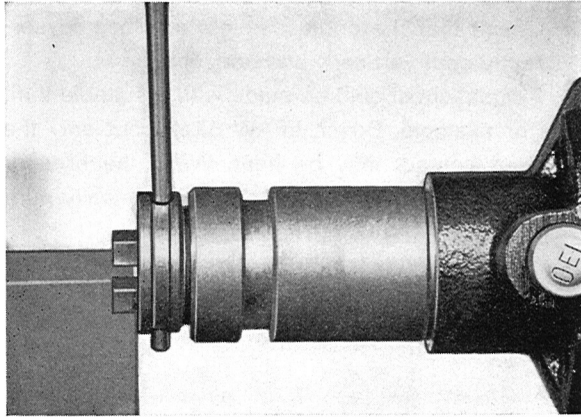

Fig. 3-100. Removing driving collar
- Remove the resilient ring (13, Fig. 3-96) and mark how the driving collar (11, Fig. 3-96) is located in relation to the distributor shaft. Tap out the pin (Fig. 3-100), lift off the driving collar and pull up the distributor shaft. Check that no washers have been lost.